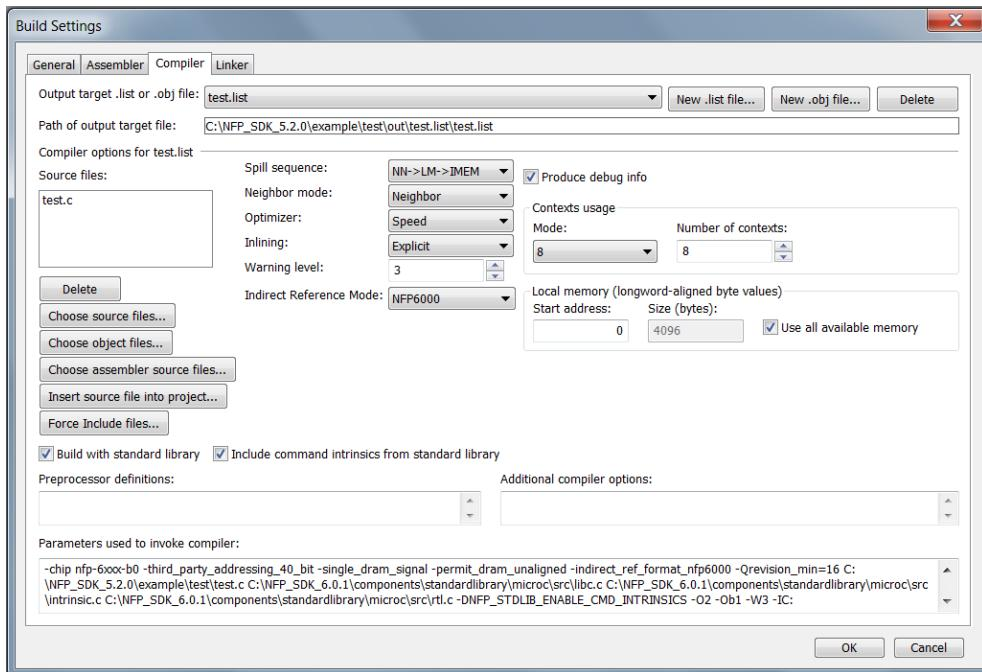

Figure 2.9. Build Settings Compiler tab
2. Click the **Compiler** tab (see Figure 2.9).